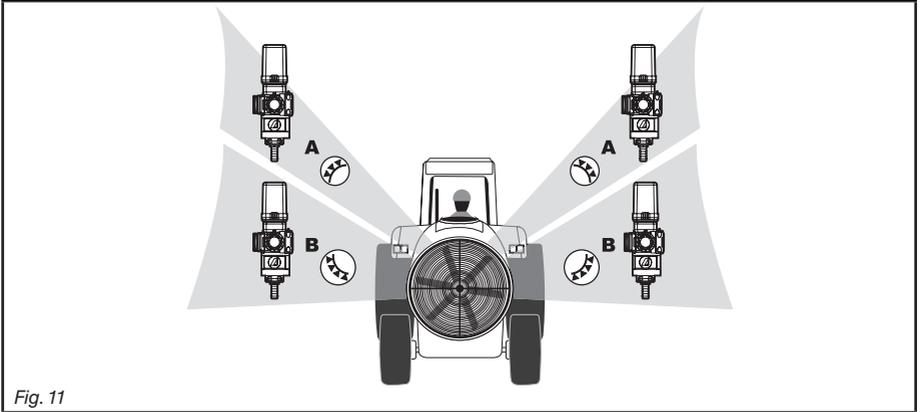

Fig. 11
- **MIRRORED section valves (Fig. 11):**
you need calibrate only one part of the control unit (right or left boom, valves **A** and **B**): calibrate the other part of the boom by setting the corresponding metered by-passes to match the valve settings on the section of boom already calibrated (Fig. 11).